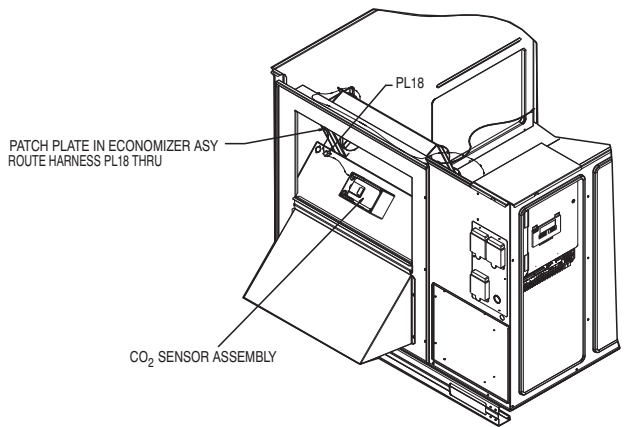

Fig. 4 - CO₂ Sensor Location in 48/50PD05-06 and 48/50PG03-16 Units
The CO₂ sensor is to be installed in the pre-drilled holes located in the economizer block as shown in Fig. 4.
11. Route unit wiring harness (P/N 48HG400595) through patch plate on economizer. (See Fig. 4.) Continue running harness with economizer harness, using metal clips and wire ties along top of filter plate. Be sure to leave enough slack so economizer can be tilted out.